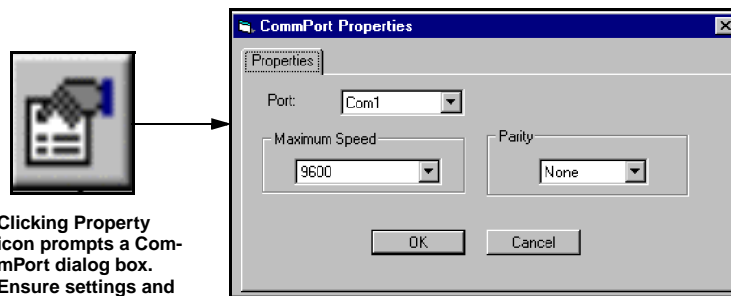
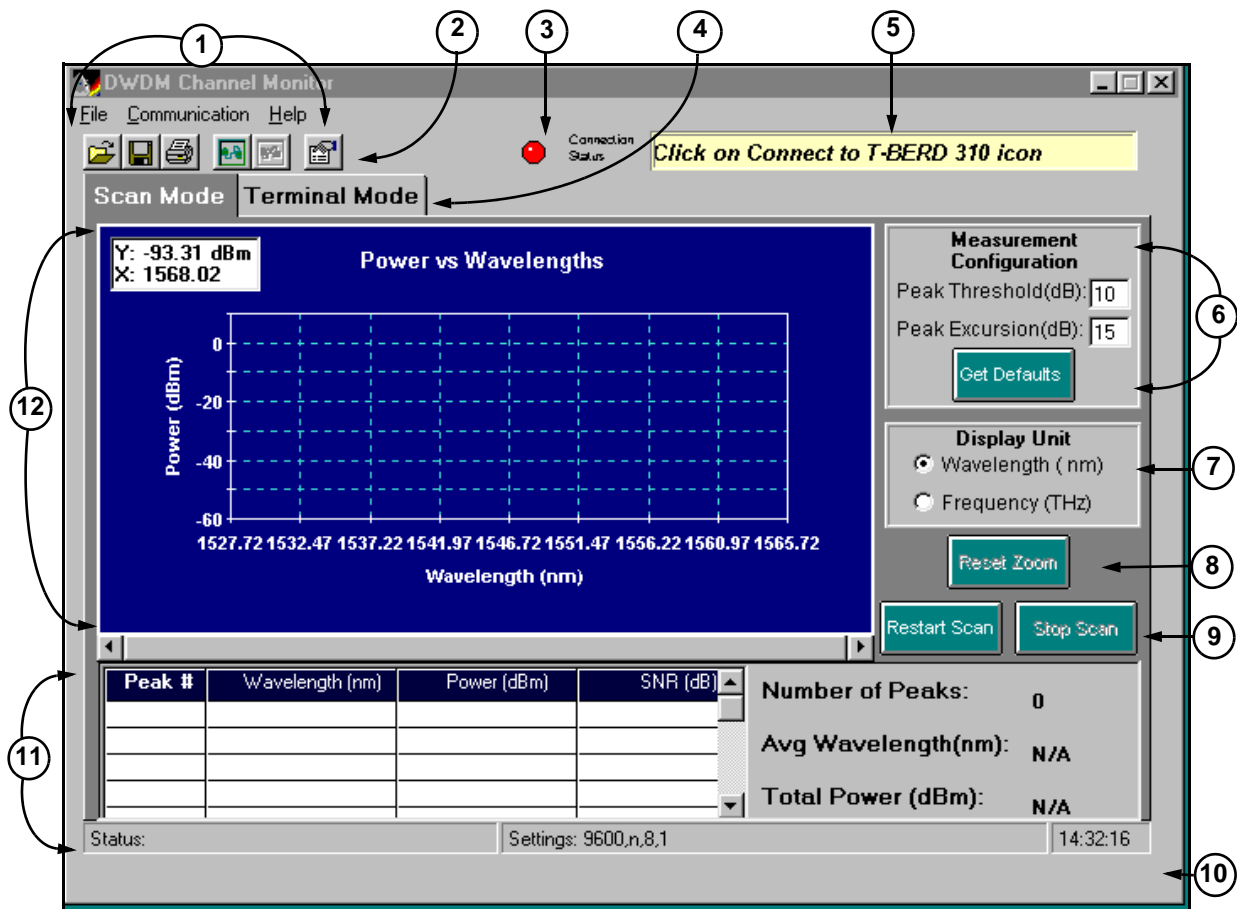
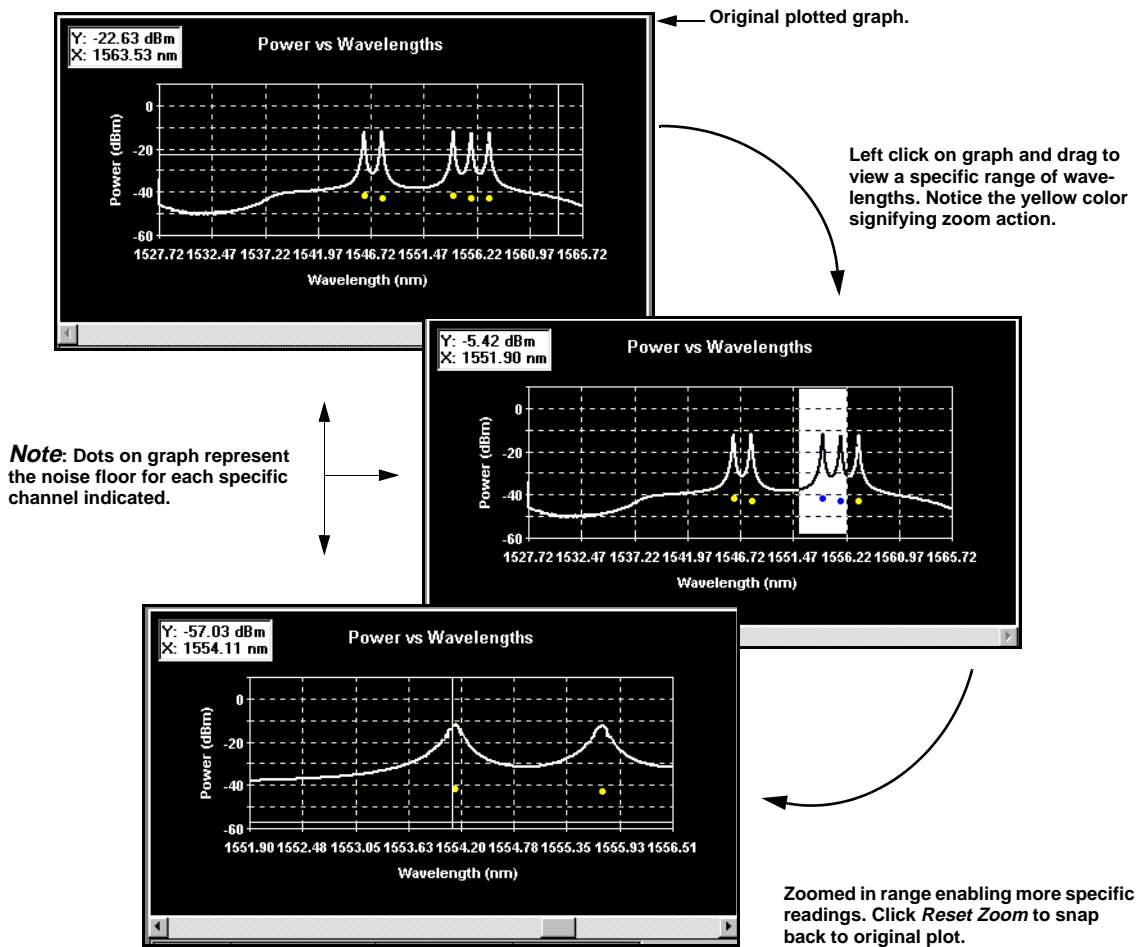
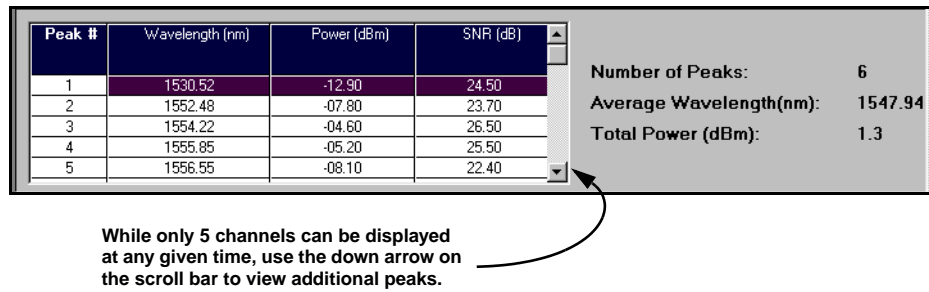

Figure 2-28. Property Settings on Laptop to Initialize DWDM Test
Figure 2-29. DWDM Channel Monitor Scan Mode Property Sheet
Figure 2-34. DWDM Scan Mode Zoom Capability
Figure 2-35. Number of Peaks Table within Scan Mode
4. Verify connection. When program is launched on the laptop, it tries to connect automatically to the T-BERD 310. If the connection is successful, the LED above the **Scan Mode** property sheet (see Figure 2-29, callout #3) turns green; otherwise, it stays red. If red, check settings on laptop (click **Properties** icon above **Scan Mode** property sheet) to display CommPort Properties dialog box. It should look similar to Figure 2-28.
The program opens with the Scan Mode property sheet. Behind that screen is a second tab, the Terminal Mode property sheet. Figure 2-29 shows the opening screen. Descriptions of the callouts follow.
4. **Tabbed Property Sheets** — There are two tabbed property sheets: **Scan Mode** and **Terminal Mode**. The **Scan Mode** tab contains command buttons, editing capabilities, and options. When the DWDM application opens, it opens to **Scan Mode**. All graphical and table measurements are done in this property sheet (see Figure 2-29). The **Terminal Mode** functions as a terminal simulation window. It enables the user to remotely control the T-BERD 310 by typing in remote control commands (see Figure 2-33).
5. **Scrolling Marquis** — Displays initialization of applications and displays log files opened from laptop (see Figure 2-29).
6. **Measurement Configuration Window** — Numerically displays measurements of Peak Threshold and Peak Excursion of wavelengths (nm) and frequency (THz) derived from channel activity (see Figure 2-29). The numbers are determined using Peak Threshold and Peak Excursion parameters. User can modify these values at any time. An error message box displays if values are not within normal range.
7. **Display Unit Window** — Indicates if optical spectrum measurements are to be displayed in either Wavelength (nm) or Frequency (THz) (see Figure 2-29).
8. **Reset Zoom:** Enables user to return to the original (full scan) graph (see Figure 2-29). When data is not in the process of being downloaded (**Stop Scan**), user can zoom into a specific range of the wavelengths by using the mouse button and dragging on the graph (creating a rubber band). When released, the selected wavelength range displays. Figure 2-34 shows the progression of changing screens when using the zoom function.
9. **Restart Scan / Stop Scan:** Press to get or set new criteria values (see Figure 2-29). Start the scan using configuration settings displayed in the **Measurement Configuration** window. The scan covers the full spectrum (1528 nm – 1565 nm) in searching for active DWDM channels. Once DWDM results are available, data is downloaded, and the graph is updated. This cycle is repeated until user presses **Stop Scan**.
10. **Status Bar** — This area identifies which file is open, settings, and time (see Figure 2-29).
11. **Number of Peaks Table** — This table displays information about the channels from the latest scan (see Figure 2-29). The number of rows are equal to the number of channels found from the scan. Each peak depicts wavelength, power, and SNR. The maximum number of channels the user can view at any given time is five; however, a scroll bar to the right of the table automatically displays when there are more than channels peaks found, and the user can use the down arrow to view more channels. A summary report of the measurements is listed on the right side of the table (see Figure 2-35).
- 12. Power vs. Wavelength / Power vs. Frequency Graph** — This graph plots the points from every channel found in the latest scan (see Figure 2-34). Any point on the graph results in the X (wavelength/frequency) and Y (power) coordinates displaying a numerical figure in the text box located on the top left corner of the graph. Dots on grass represent the noise floor for each specific channel indicated. The graph automatically updates with every scan.